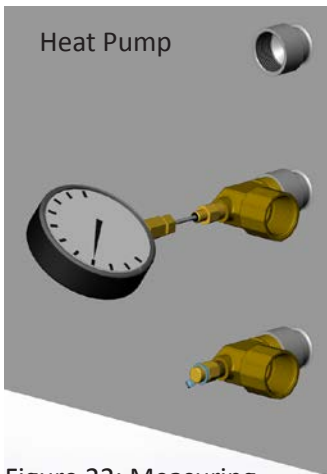

Figure 22: Measuring pressure drop
1. Measure the pressure drop across the heat pump’s heat exchanger via the PT ports located at the water connections of the unit (Figure 22). Use a single large dial face pressure gauge to allow for more precise measurement.